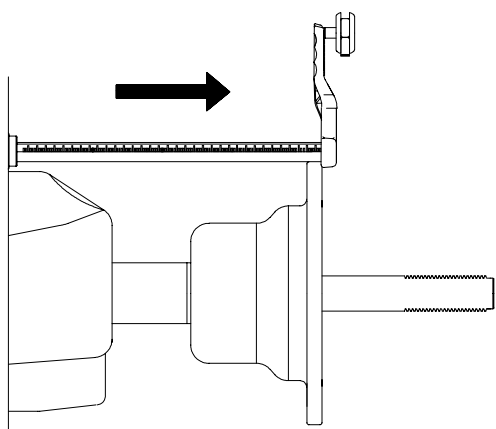

Figure 41
4. Gently pull the **SAPE** arm **OUT** until it is fully extended, (Figure 41) hold it steady for about 1 second or until beep.